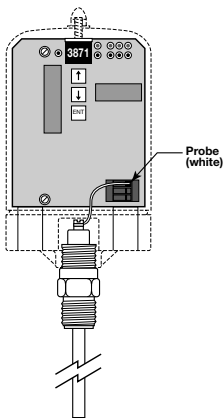

Figure 9
2. Tighten securely, being certain that the wrench is applied **ONLY** to the mounting gland. Refer to Figure 9.
3. Screw the amplifier housing onto the probe. Refer to Figure 9.
5. Locate the white wire which is fastened to the probe terminal (P), Connect the free end of this wire to the probe connection screw.